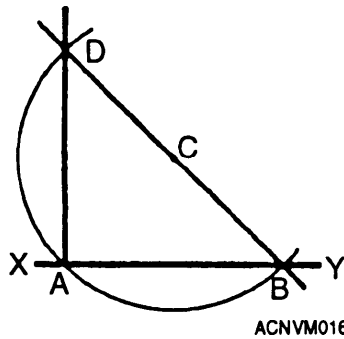

Figure 12-16.—Constructing a 90-degree angle at a given point.
2. Use a pair of dividers to **CONSTRUCT A RIGHT ANGLE AT A GIVEN POINT**. You will find this skill quite useful in making layouts. Figure 12-16 illustrates one method for constructing a right angle at a given point.
Suppose you have line XY with A as a point at which you need to erect a perpendicular to form a right angle. Select a point within the proposed angle that you wish to construct. In figure 12-16 that point is C. Set the dividers equal to CA, and using that distance for a radius, swing an arc BAD with C as a center. Lay a straightedge along the points B and C and draw a line that will intersect the other end of the arc at D. Now, draw a line connecting the points D and A and you have constructed a 90-degree angle.